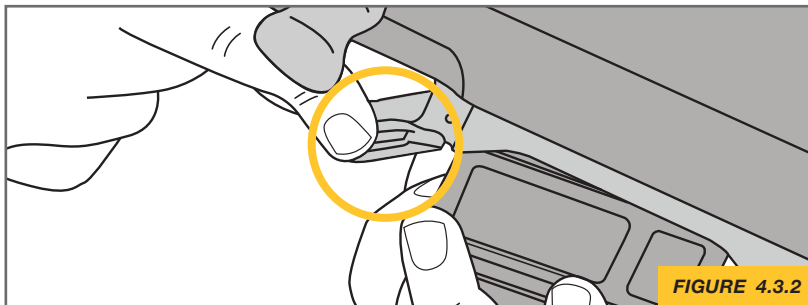

FIGURE 4.3.2
2. Remove empty magazine by depressing the magazine release located just forward of the trigger guard, and extract magazine from magwell (FIGURE 4.3.2).